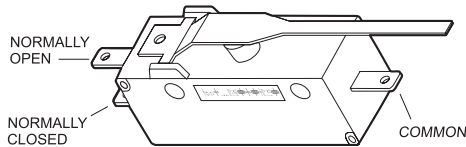

Figure 9a
1. Test resistance between three terminals on switch. (See Figure 9a.)